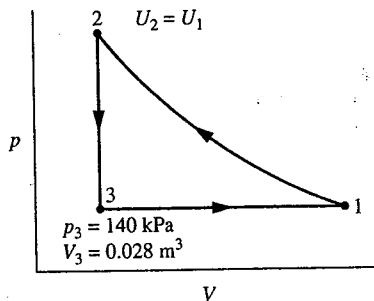

Fig. P2.77
**2.77** As shown in Fig. P2.77, a gas within a piston–cylinder assembly undergoes a thermodynamic cycle consisting of three processes in series: